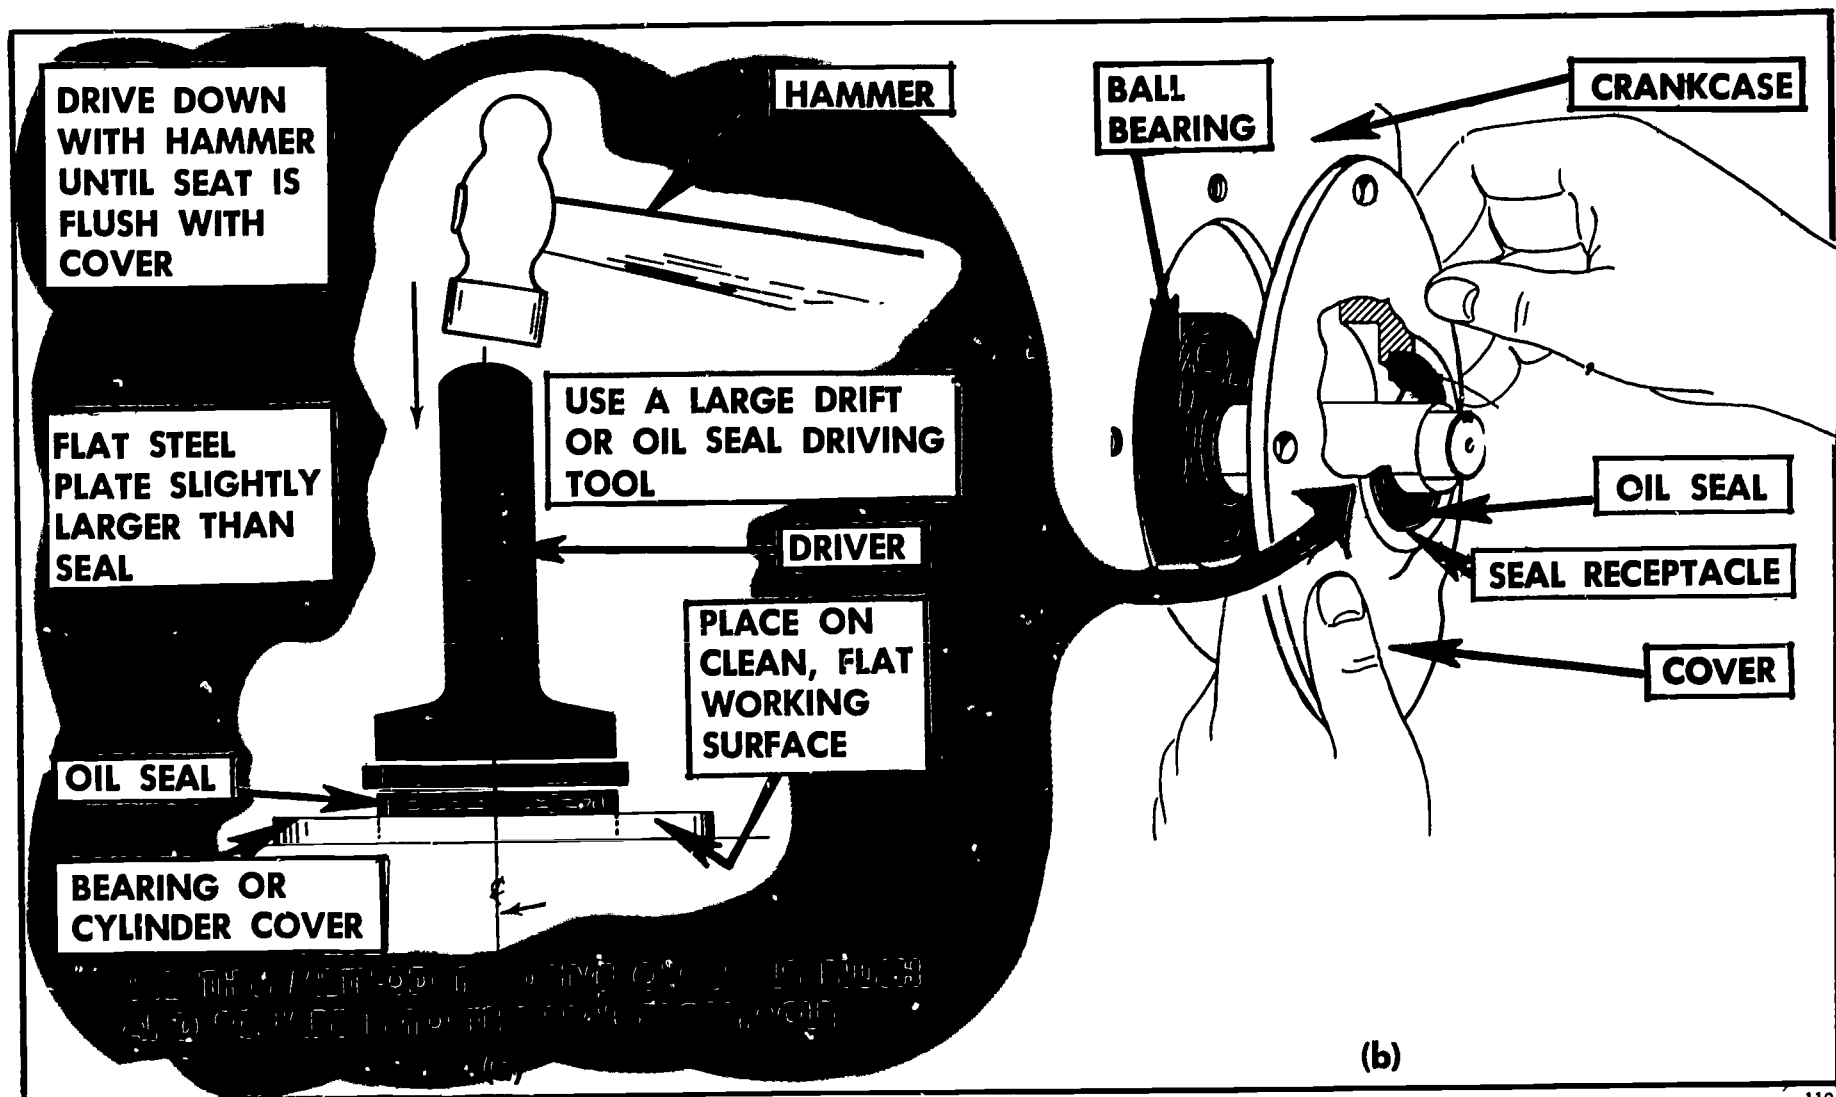

FIGURE 319. (a) Installing the oil seal before installing the crankshaft. (b) Installing the bearing plate and oil seal on the crankshaft.
1. *Install the oil seals (Figure 319).*